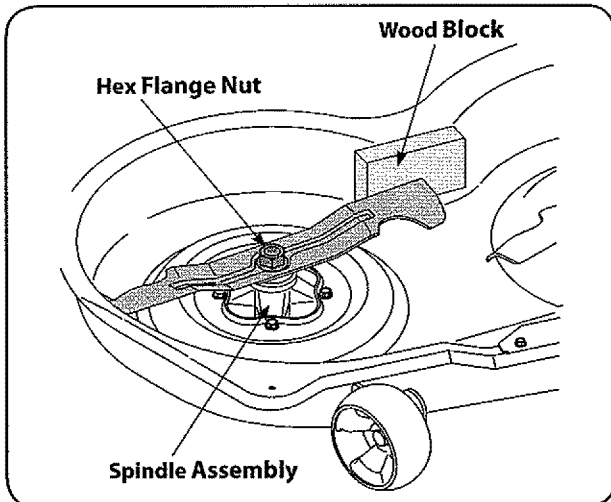

Figure 4-14
- Place a block of wood between the center deck housing baffle and the cutting blade to act as a stabilizer. See Figure 4-14.
- Use a 15/16" wrench to remove the hex flange nut that secures the blades to the blade spindle assemblies. See Figure 4-14.